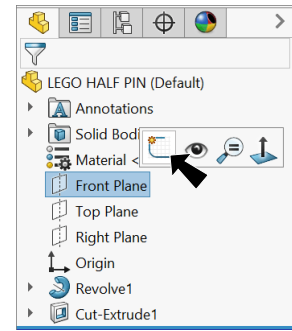

Fig. 11
Step 1. Click **Front Plane**  in the Feature Manager and click **Sketch**  on the context toolbar, **Fig. 11**.
Step 3. Click **Circle**  (S) on the Sketch toolbar.